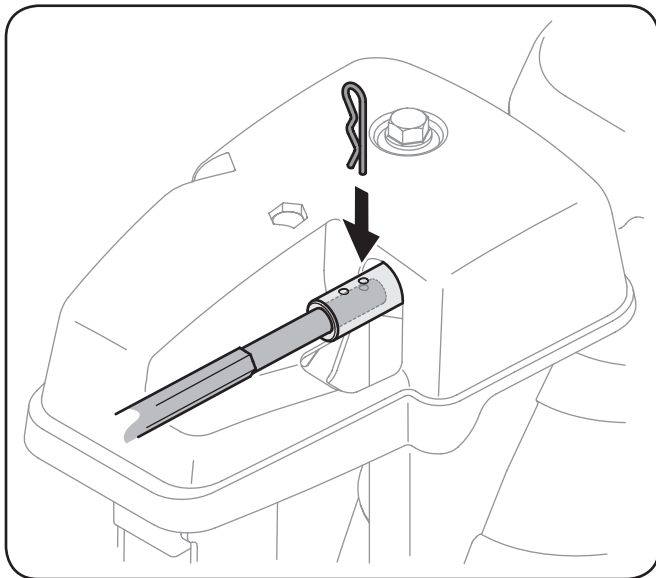

Figure 3-12
7. Push the chute control rod toward the control panel until the hole in the rod lines up with the hole in the chute control input closest to the chute control head and insert the cotter pin. See Figure 3-12.